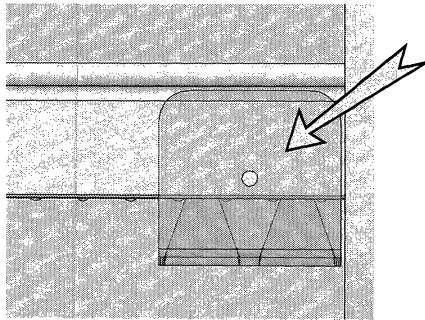
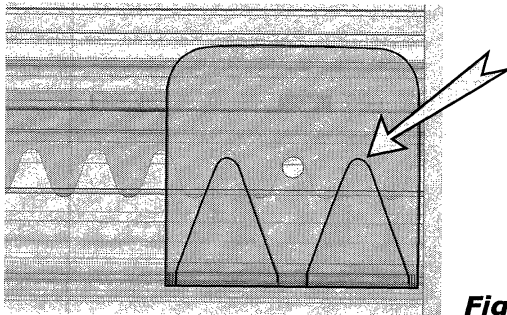

Fig. 1
Fig. 2
1. At bottom end of rail (base of stairs), position SRE Cross Pin Drill Template after first tooth of first gear rack. Template hole should be up against the part of the extrusion covering the gear rack (Fig. 1). Template "teeth" should fit up against the gear rack valleys (Fig. 2).